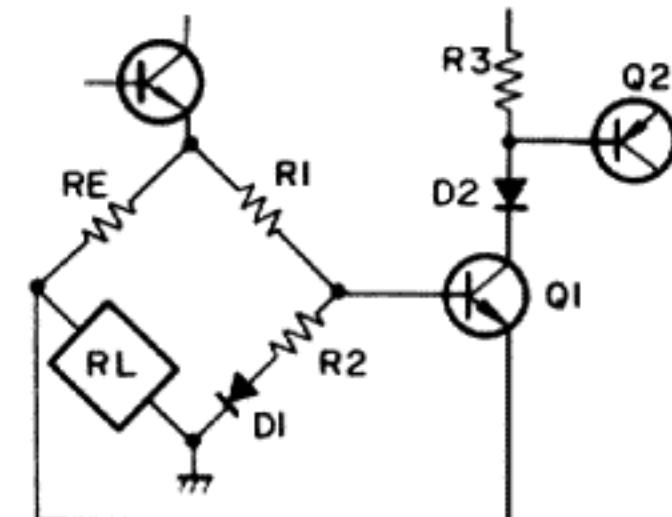

Fig. 10 Overload detector
The overload detector circuit incorporates the load (RL) in one side of a Wheatstone bridge (see Fig. 10). The base and emitter of a sensing transistor (Q_1) are connected to the opposite corners of the bridge, so if RL decreases, Q_1 will become forward biased. If RL falls below a prescribed value, Q_1 will turn on, thereby passing a current through R_3 and D_2 . Due to the voltage difference generated across R_3 , Q_2 will become forward biased, and consequently turn on. Q_3 base potential rises and Q_3 turns on. C_1 will rapidly discharge. As consequence, Q_4 will turn on and the relay will become de-energized, thus causing the output circuit to open.